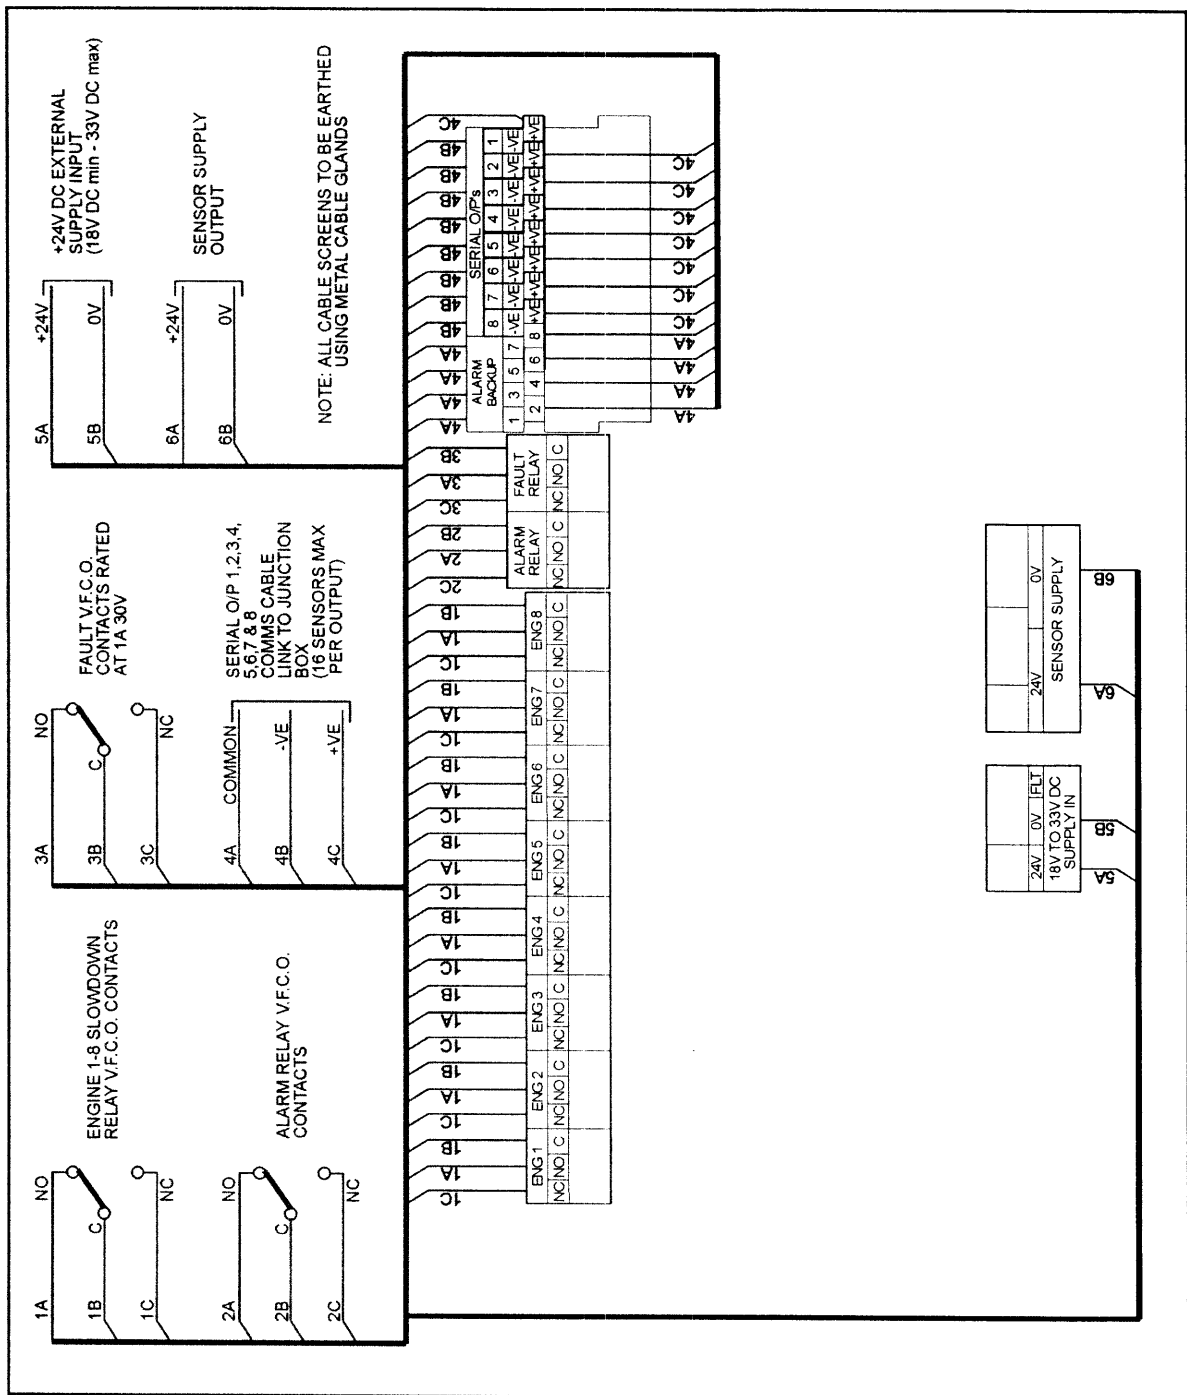

Figure 6: Control Unit External Connections Label
- 2.2.6 Ensure that the Communication and Junction Box power supply cables are connected correctly in the Control Unit (refer to Figure 6).
- 2.2.7 Ensure that the Engine Slowdown, Main Alarm and Fault Alarm relays are connected correctly in the Control Unit (refer to Figure 6).
- 2.2.8 Ensure that the supply input cable is connected correctly to the Control Unit (refer to Figure 6).